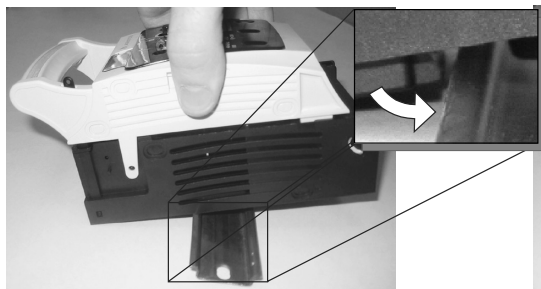

Figure 9
- Catch upper catches of holder in TH-35 bus bar of TH-35 bus bar (Figure 9);